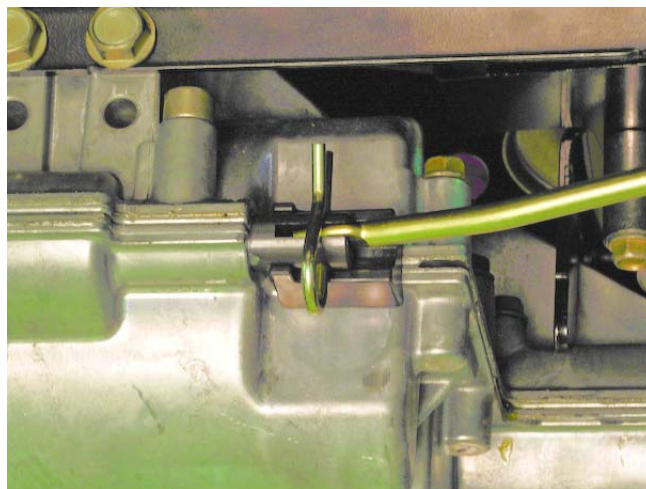

Figure 5.15
1. To adjust the gearshift linkage, adjust the shift lever rod where it enters the transmission to the center detent position. See Figure 5.15.